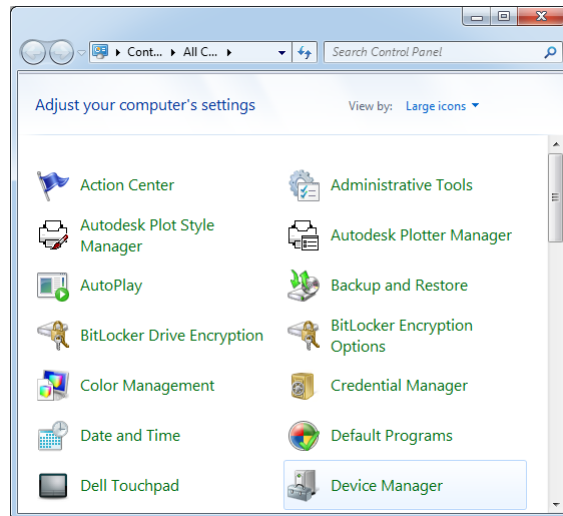

Figure 7
- a. Open Control Panel and select Device Manager (Figure 7).